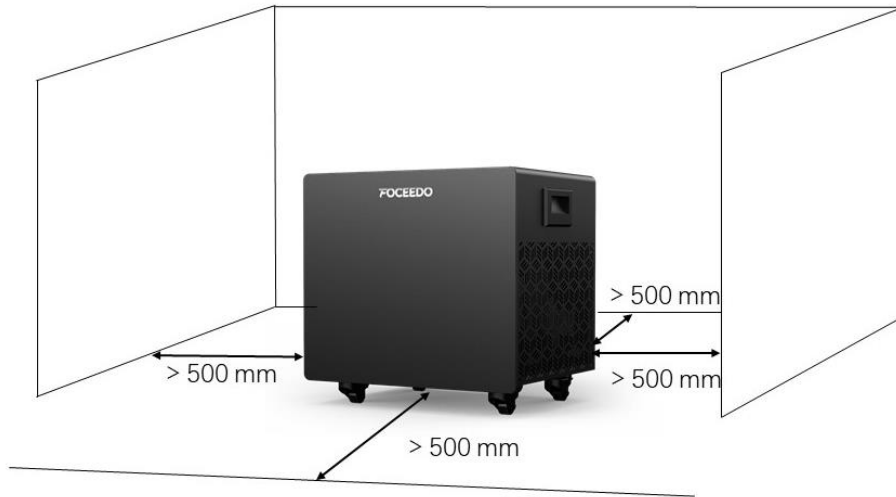

Figure 1. Set up distance
1. Place the chiller on a stable, well-ventilated surface near the tub. Leave at least **50 cm (20 inches)** of clearance around the unit for proper airflow. (See Figure 1)